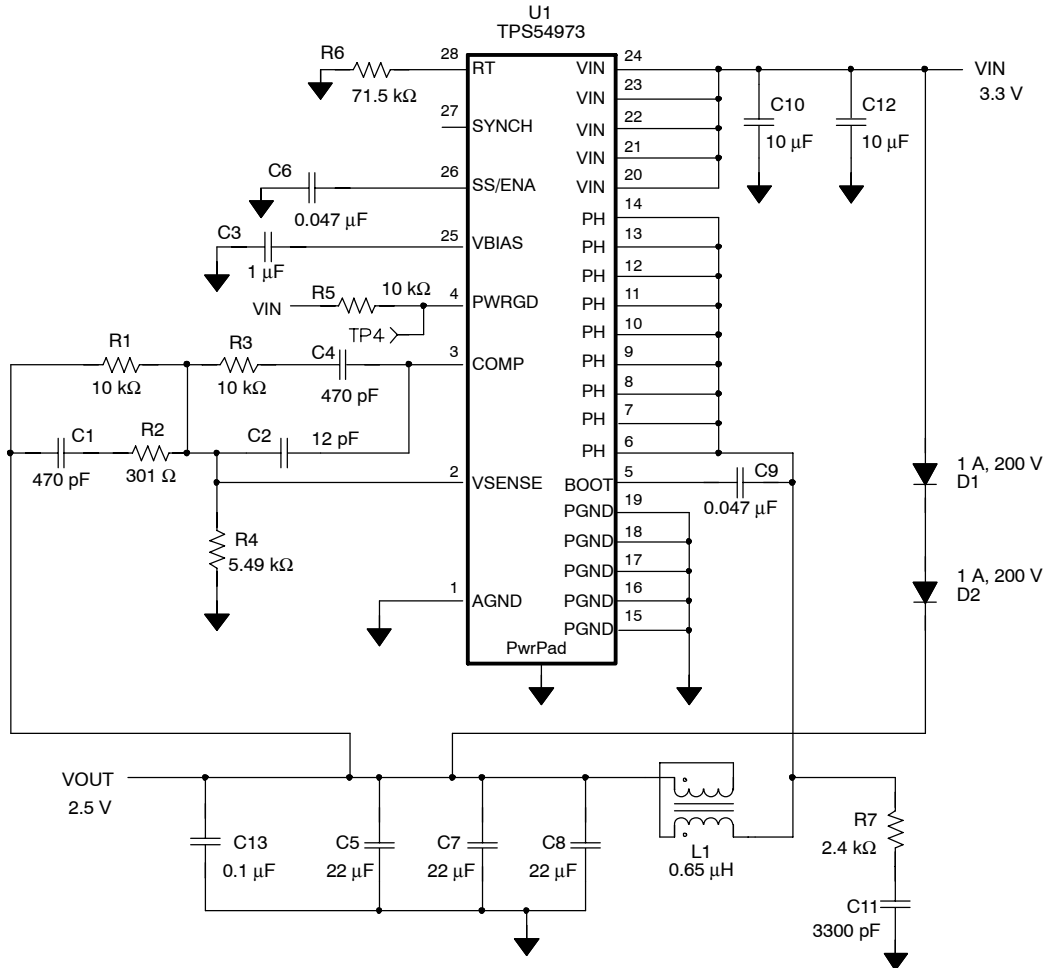
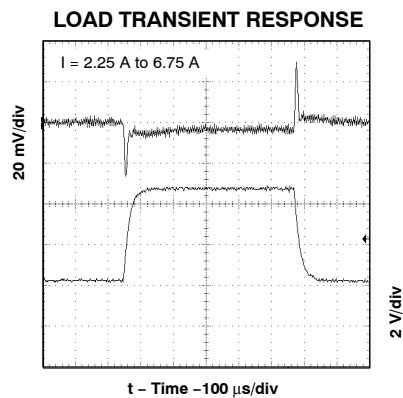

Figure 9. Application Circuit
Figure 18
⁽³⁾ Specified by the circuit used in Figure 9
(1) Specified by design
(2) Static resistive loads only
(3) Specified by the circuit used in Figure 9
(4) Matched MOSFETs low-side $r_{DS(on)}$ production tested, high-side $r_{DS(on)}$ specified by design
Figure 9 shows the schematic diagram for a typical TPS54973 application. The TPS54973 (U1) can provide up to 9 A of output current at a nominal output voltage of 0.9 V to 2.5 V, and for this application, the output voltage
Data shown is for the circuit in Figure 9 with precharge disabled (D1 and D2 removed) except for slow-start timing of Figure 18. All data is for $V_I = 3.3\text{ V}$, $V_O = 2.5\text{ V}$, $f_s = 700\text{ kHz}$ and $T_A = 25^\circ\text{C}$, unless otherwise specified.